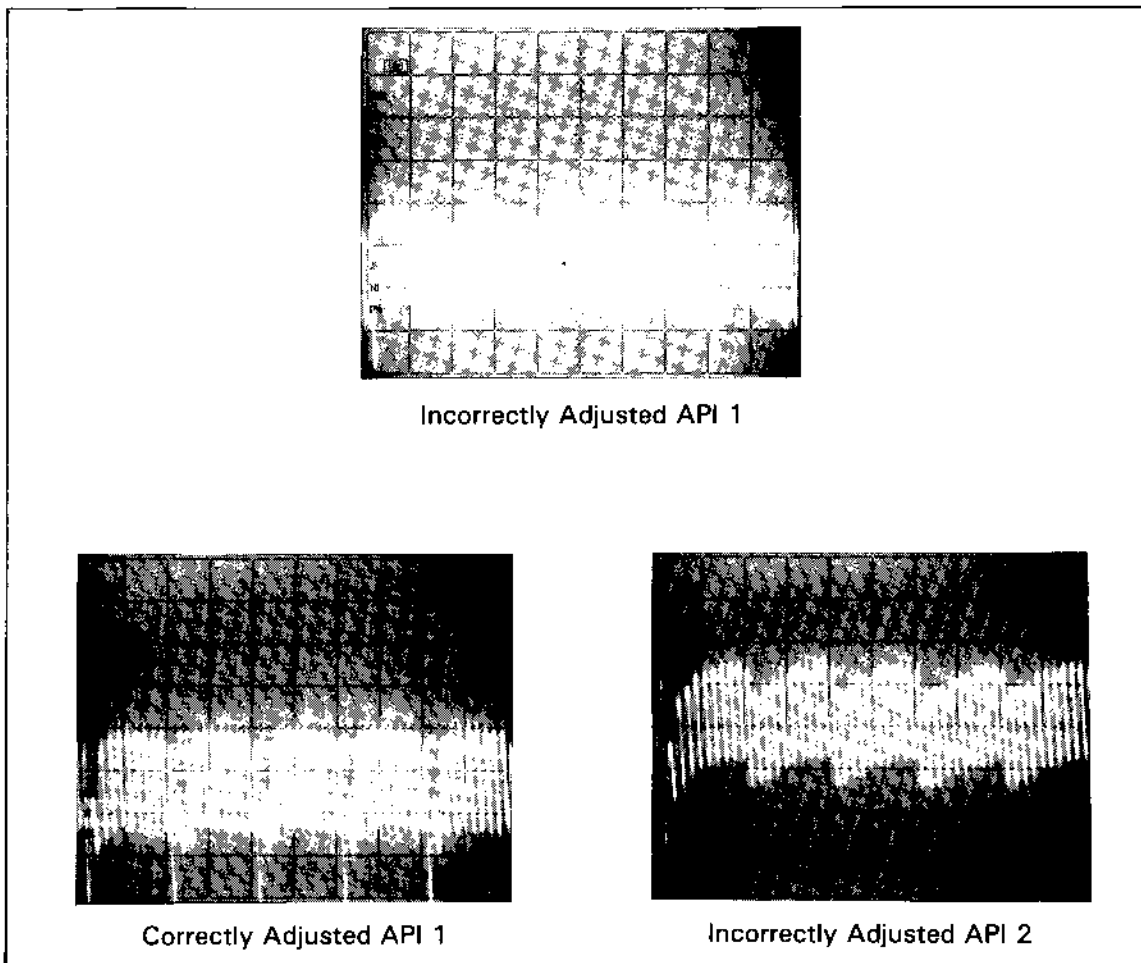

Figure 5-18. API Adjustment Waveforms
n. Adjust A32R49 (API1, see Figure 5-46) for a minimum amount of ripple on the scope waveform. (See Figure 5-18.)
q. Adjust A32R56 (API2, see Figure 5-46) for a minimum amount of ripple on the scope waveform. (See Figure 5-18.)